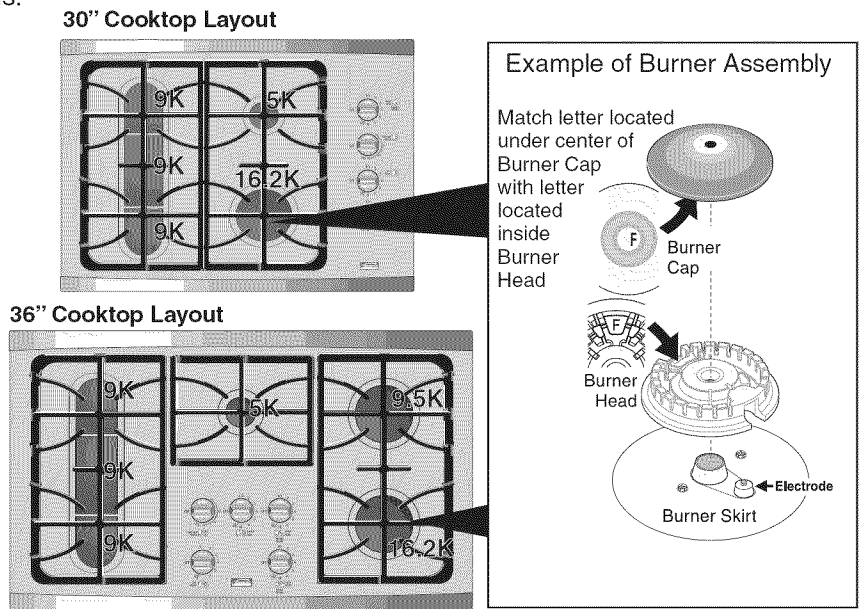
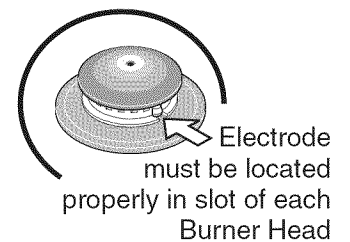

Figure 1
Figure 3
2. Remove all packing tape from cooktop. Remove Burner Caps and Burner Heads (See Figure 1).
4. Place Burner Heads & Caps, match the letters located under center of Burner Caps with the letters located inside Burner Head (only 5K, 9.5K and 16.2K burners are marked with letters - See Figure 1). Place all Burner Heads & Caps on the cooktop (See Figure 1) while carefully aligning the Electrodes into slots or holes of the Burner Heads (Figure 3). Note: The Burner Heads should sit flat on Cooktop Burner Skirts.